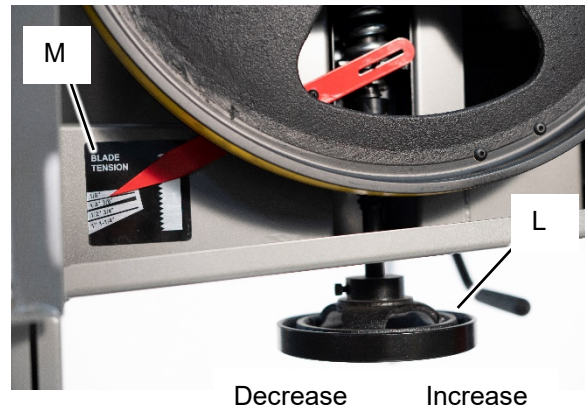

Figure 7-10
Blade tension is set with the blade tension handwheel (L, Figure 7-10) and is performed following blade replacement and periodically as the blade stretches from use.
2. Set blade tension by rotating handwheel (L) according to the arrow directions shown in Figure 7-10, clockwise to tighten, counterclockwise to loosen.
3. The gauge (M) indicates approximate tension according to the width of the blade in inches. Initially, set the blade tension to correspond to the width of your blade.